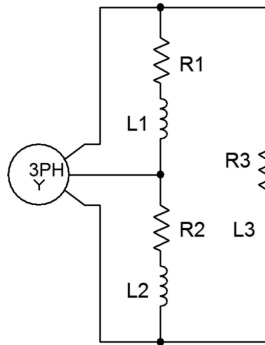

Figure 9.7
13. The 3-phase system of Figure 9.7 uses a Y connected generator feeding a Δ connected load. The load consists of 3 legs of 40Ω in series with $j30 \Omega$ of inductive reactance, as shown in Figure 9.7. If the generator phase voltage is 230 volts, find the line voltage, the voltage across each load leg, the line current, the load current, and the apparent and real powers drawn by the load.
14. Given the wye-delta system of Figure 9.7, if the line voltage is 400 volts and the load is balanced with each leg at $80 + j20 \Omega$, determine the generator phase voltage, line current, generator phase current, load current, the voltage across each load leg, and the total real and apparent load powers.